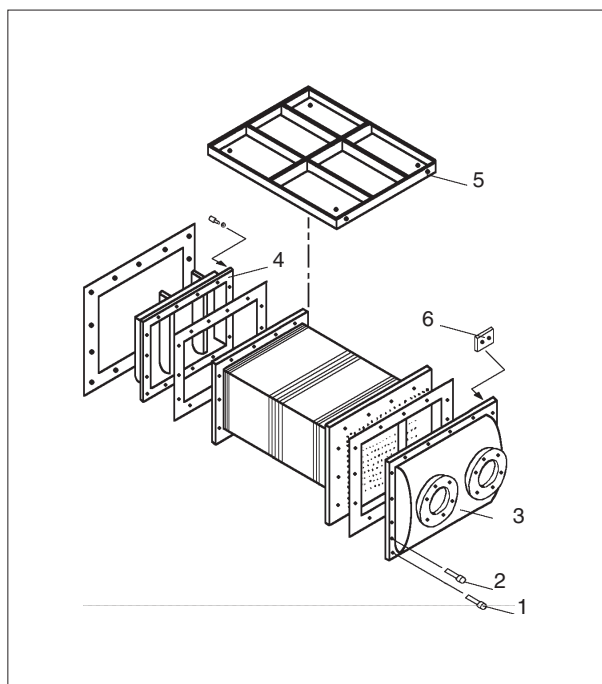

Fig. 1.
**2)** Remove the screw (1), fig. 1, which secure the end cover of the cooler element to the cooler housing, and pull the cooler element half-way out.